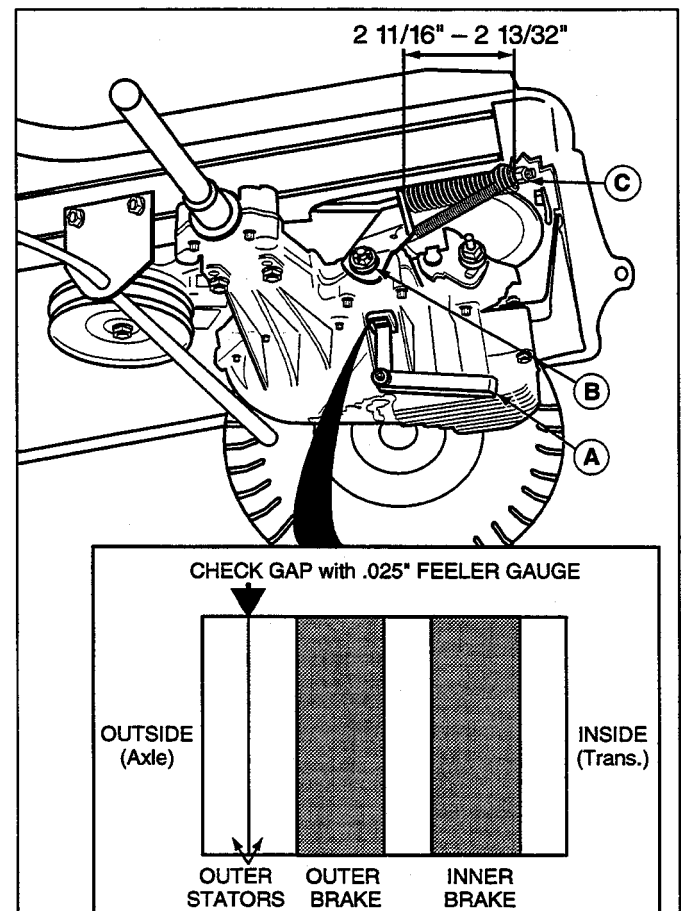

Figure 25. Brake Adjustment (Hydro Model)
2. Place a  $.025"$  feeler gauge (A, figure 25) between the two outer brake stators (refer to inset illustration). The gap should be between  $.025"$ – $.030"$ . To adjust:
- b. To **decrease** gap, hold feeler gauge in gap and turn nut (B) clockwise until resistance is felt on the feeler gauge. To **increase** gap, turn nut (B) counter-clockwise and recheck gap.
3. Set the parking brake. Loosen or tighten adjustment nut (C) to achieve a  $2\ 11/16"$ – $2\ 13/32"$  compressed spring length as shown in figure 25.